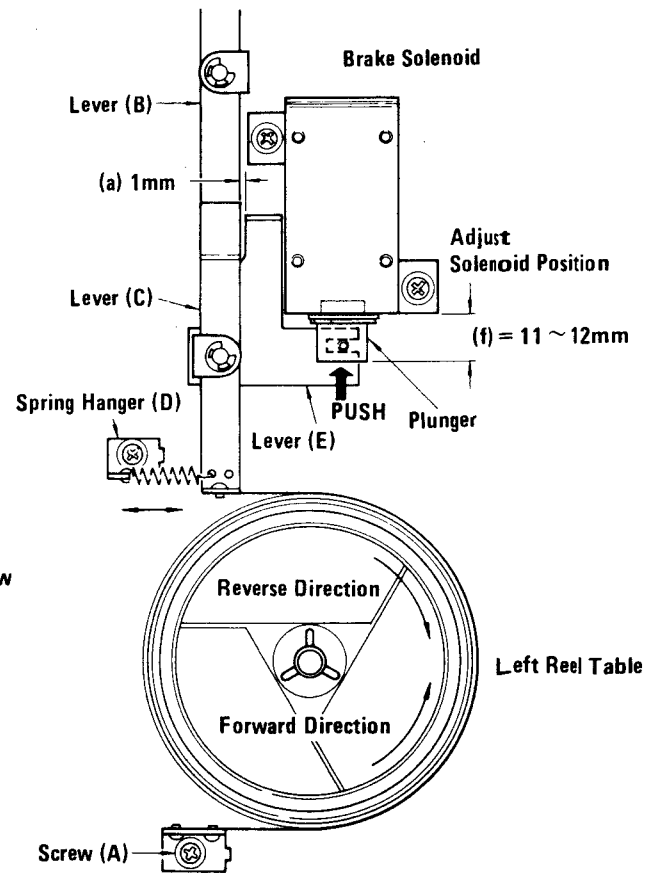

Fig. 2-3
4. If the forward-direction torque is not correct, change the hooking position of the spring hanger (reference (D) in Fig. 2-3) for the corresponding brake requiring adjustment. If, after the forward-direction torque has been properly adjusted and the reverse-direction torque is not correct, or the forward-direction torque is still not correct, check to see if the brake felt pad is worn, and also check that the brake mechanism is properly aligned as explained in Section 2-3, "Brake Mechanism". If necessary, replace the entire reel table.